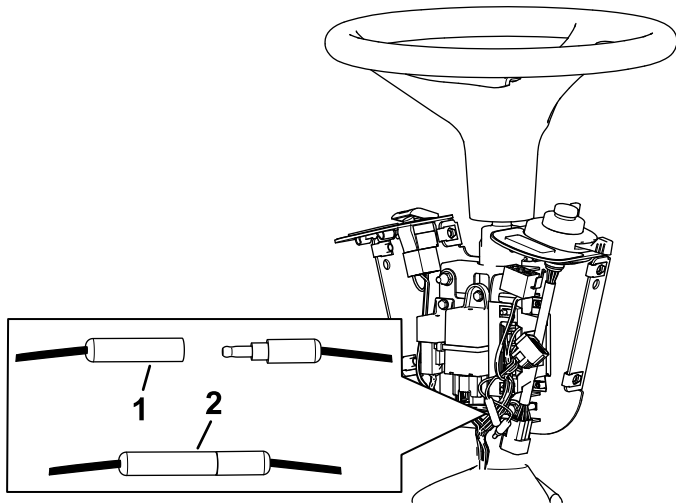

Figure 9
8. If the machine is used in North America, connect the bullet connectors as shown in Figure 9.